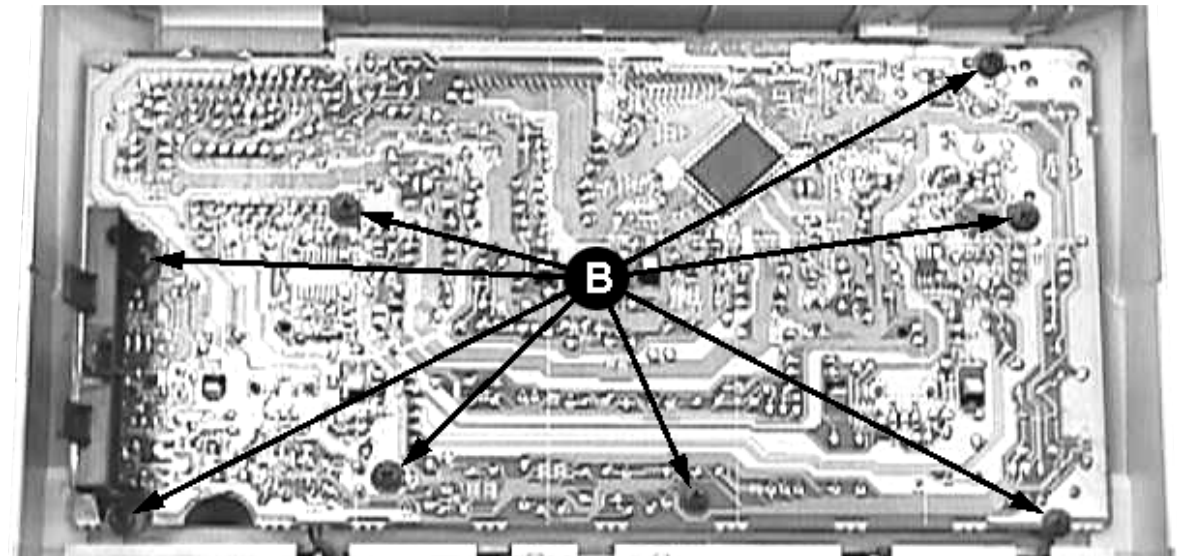

Figure 5
- 1) Loosen 2 screws below the Front Panel (pos 101) mounting it to the Bottom plate (pos 265).
- 3) Remove the Volume and Jog Rotary knob if the Front board needs to be dismantled. For Karaoke versions, the Karaoke knob (pos 133) also need to be removed.
- 4) Loosen 8 screws B to remove the Front board as shown in Figure 5.